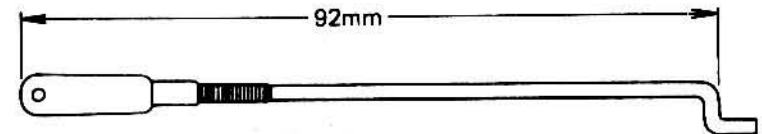

Fig. 25
- 50** Connecting up bell crank and aileron servo. Make a rod as shown in fig. 25, and connect up aileron servo to bell crank.